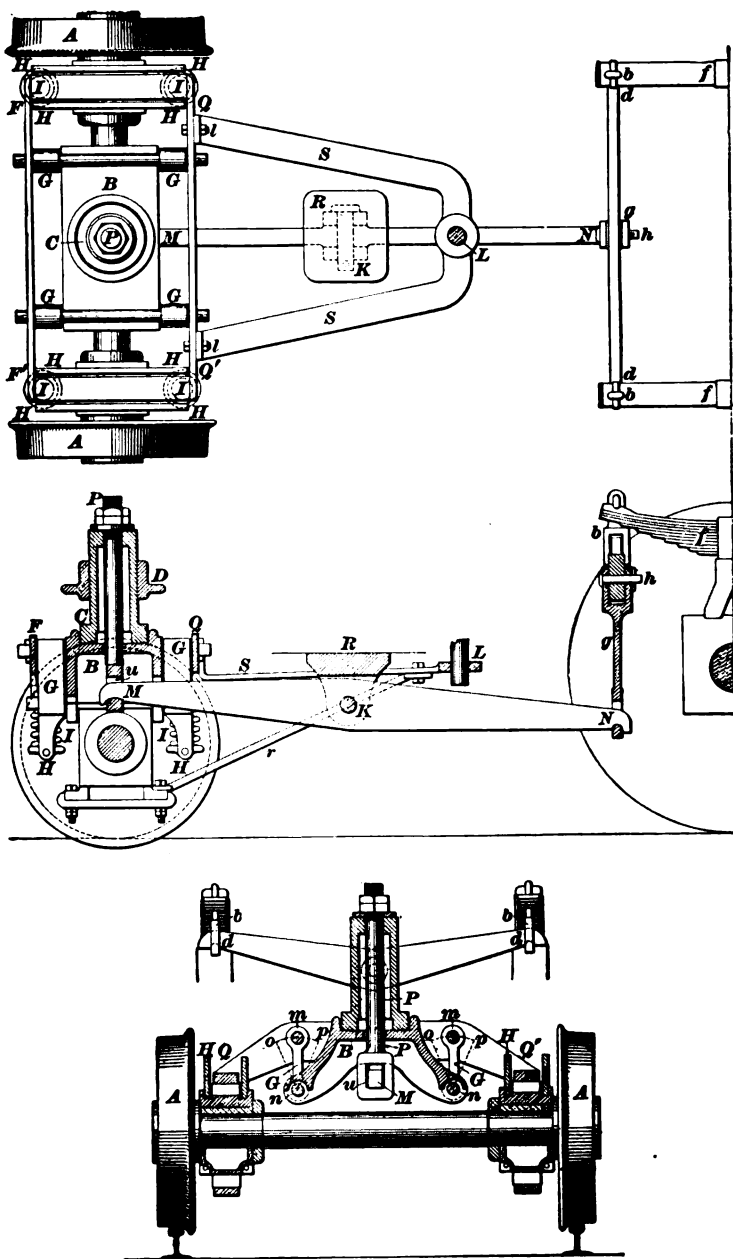
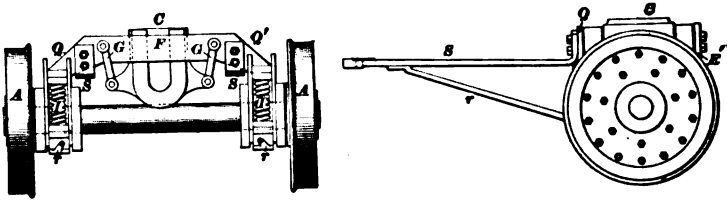

FIG. 30.
FIG. 31.
**80. Two-Wheeled Truck.**—Fig. 30 shows a two-wheeled truck in plan, sectional elevation, and cross-section. This is commonly called the *pony*, or *Bissell*, truck, and is used under mogul and consolidation engines.
Another form of pony truck is shown in Fig. 31. Here there is no equalizing lever, the radius bar being bolted to a cross-piece that is attached directly to the main frame. The construction should be evident from the cut. The kingbolt fits in a hole at *C*, and connects the bedplate directly to the swing bolster. The other parts are lettered the same as in Fig. 30.